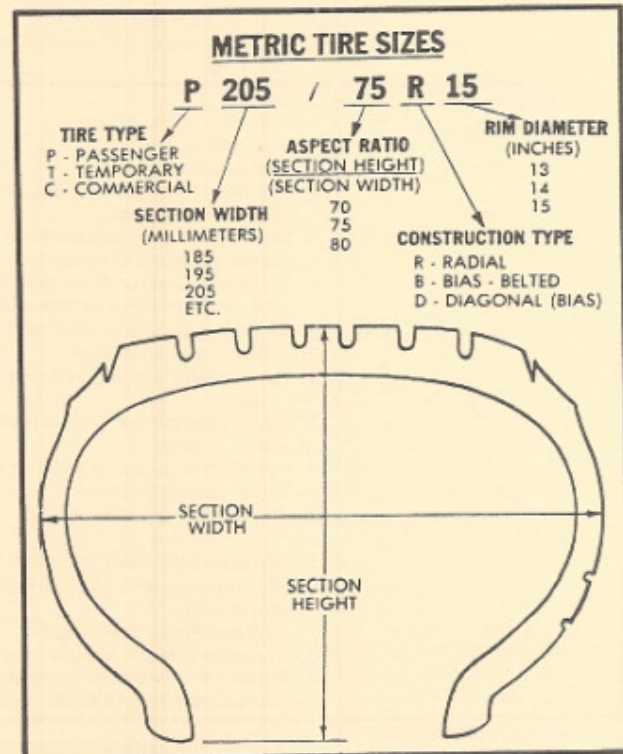

Figure 127 — Metric Tire Size Formula
1. Tires are worn to a point where 2/32 inch (1.6 millimeters) or less tread remains, or the cord or fabric is exposed. To help detect this, tires have built-in tread wear indicators (figure 127) that appear between the tread grooves when tread depth is 2/32 inch (1.6mm) or less. When the indicators appear in two or more adjacent grooves at three spots around the tire, the tire should be replaced.
The metric term for tire inflation pressure is the Kilopascal (kPa). Tire pressure will usually be printed in both kPa and psi. Metric tire gauges are available from tool suppliers. The chart (figure 127) converts commonly-used inflation pressures from kPa to psi.